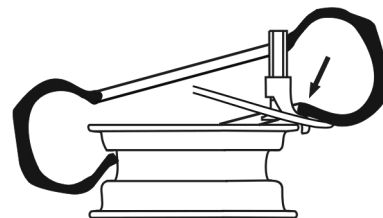

Fig. 21
- Repeat the same operation to remove the second bead(Fig. 21)